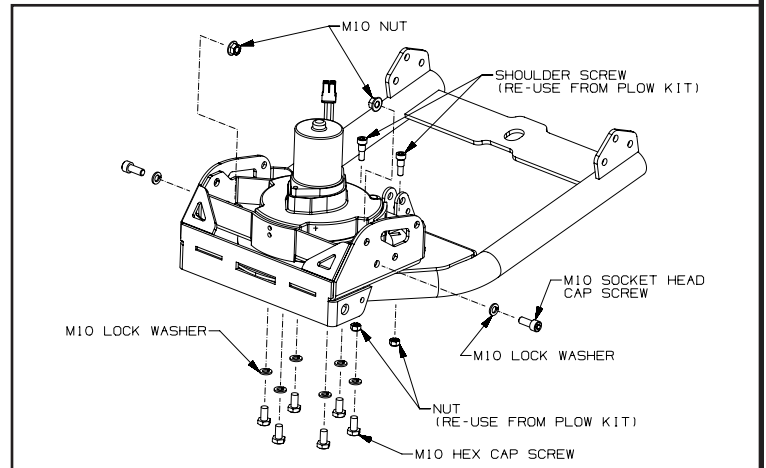

Figure 8
8. Installation is completed by securing the Pro-Pivot from the underside and sides with the hardware provided. See Figure 8